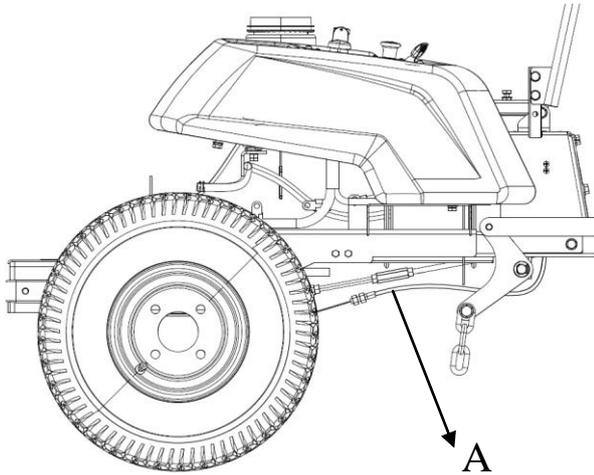
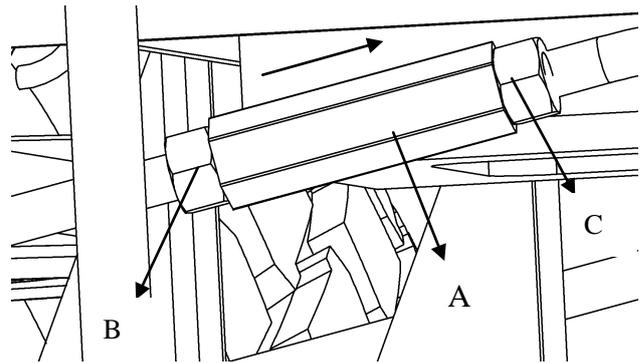

Figure 20
Figure 21
7.5.3 If the left wheel need to be adjusted, locate the position A (Refer to Figure 20), the more detail of the position A is shown as the Figure 21.
7.5.4 If the right wheel rotates clockwise (From the outside view see Figure 21), slightly loosen the nut (B and C), then turn the neutral buckle (A of Figure 21) counterclockwise (from the direction of arrow, see Figure 21) until the wheel does not rotate. On the other hand, turn the nut clockwise. At last, tighten the nut (B and C) securely.